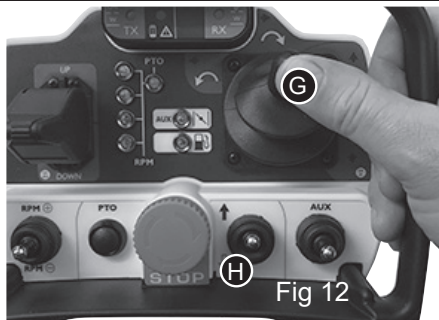

Fig 12
5.4 HOW TO DRIVE (fig.12)
In case it is necessary to work according to A-A path, it is provide a "REVERSING SWITCH" Fig 12(H) which make easier to drive as the machine will follow the Joystick direction. (see Fig 14 the drive direction with the 2 positions of the switch (H)).